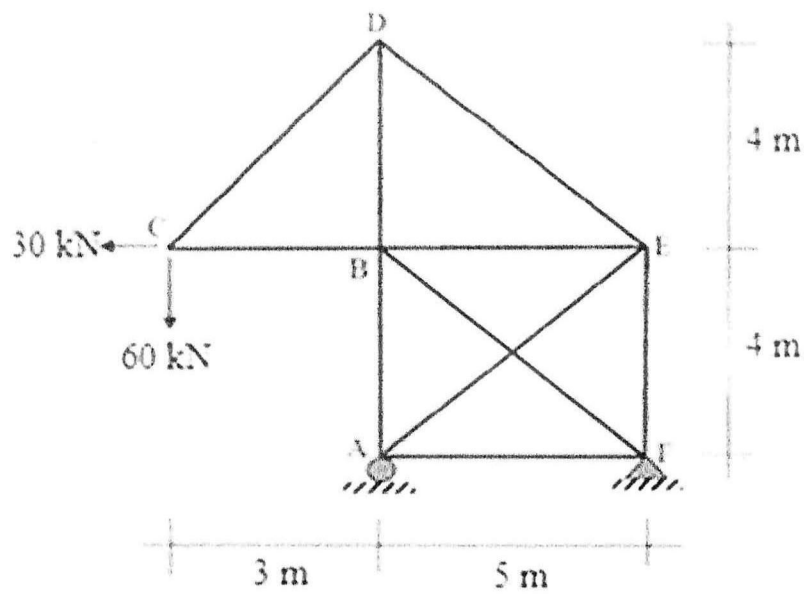

FIGURE Q1(c)
- (b) Statically indeterminate trusses can be classified into **TWO (2)** types; external indeterminate and internal indeterminate. Briefly explain the differences between these types of trusses with the help of sketch (if necessary). (5 marks)
- (c) **Figure Q1(c)** shows a plane truss that is roller supported at A and pinned supported at F. The truss is subjected to vertical and horizontal loads of 60 kN and 30 kN at C, respectively. The cross section area for the truss member is 1000 mm² and the Young's Modulus for all truss members is 250 kN/mm².